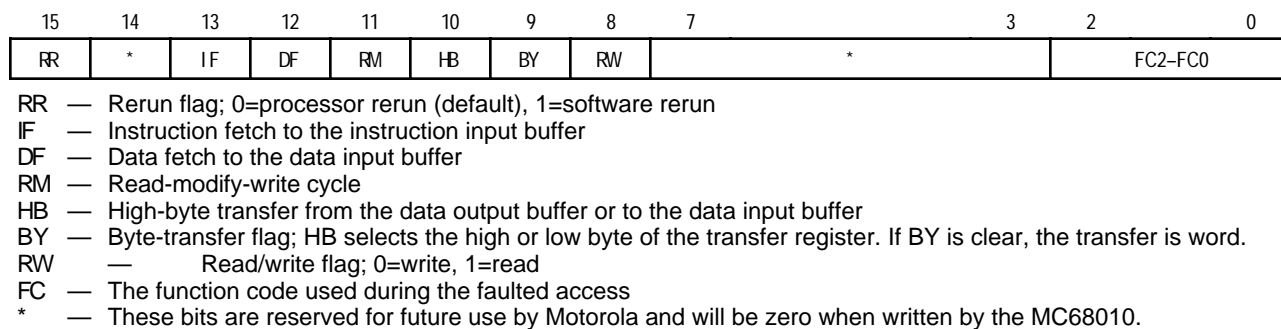

Figure 6-9. Special Status Word Format
shown in Figure 6-9. If the bus cycle is a read, the data at the fault address should be written to the images of the data input buffer, instruction input buffer, or both according to the data fetch (DF) and instruction fetch (IF) bits.* In addition, for read-modify-write cycles, the status register image must be properly set to reflect the read data if the fault occurred during the read portion of the cycle and the write operation (i.e., setting the most significant bit of the memory location) must also be performed. These operations are required because the entire read-modify-write cycle is assumed to have been completed by software. Once the cycle has been completed by software, the rerun (RR) bit in the special status word is set to indicate to the processor that it should not rerun the cycle when the RTE instruction is executed. If the RR bit is set when an RTE instruction executes, the MC68010 reads all the information from the stack, as usual.